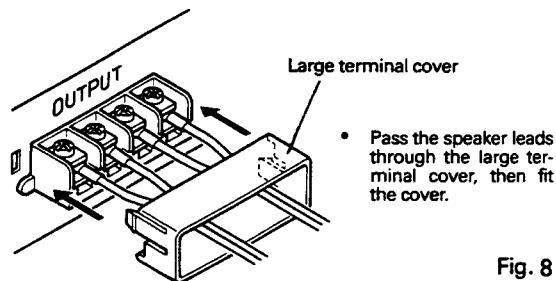

Fig. 8
- Fit the large terminal cover. (Fig. 8)